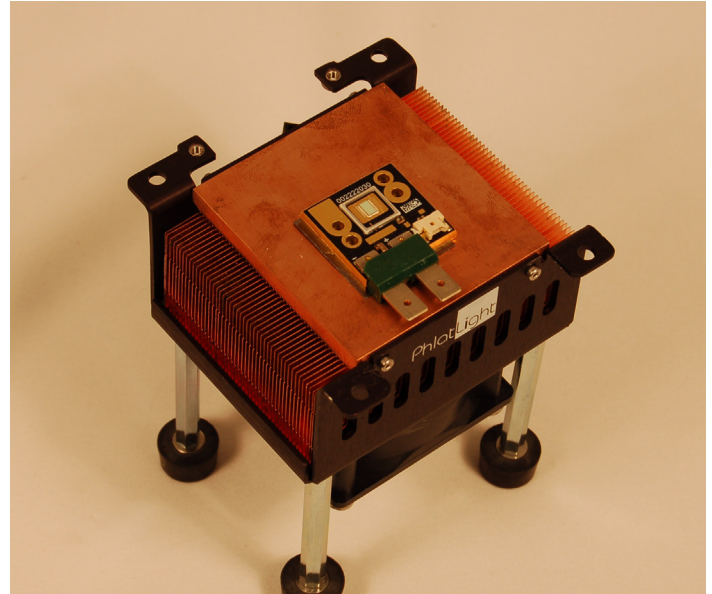

Figure 12: Device aligned on heat sink
- Carefully place the device on the thermal pad such that the hole patterns match and also the tabs from the leads from the device align well with the solder tabs of the PCB (Figure 12).